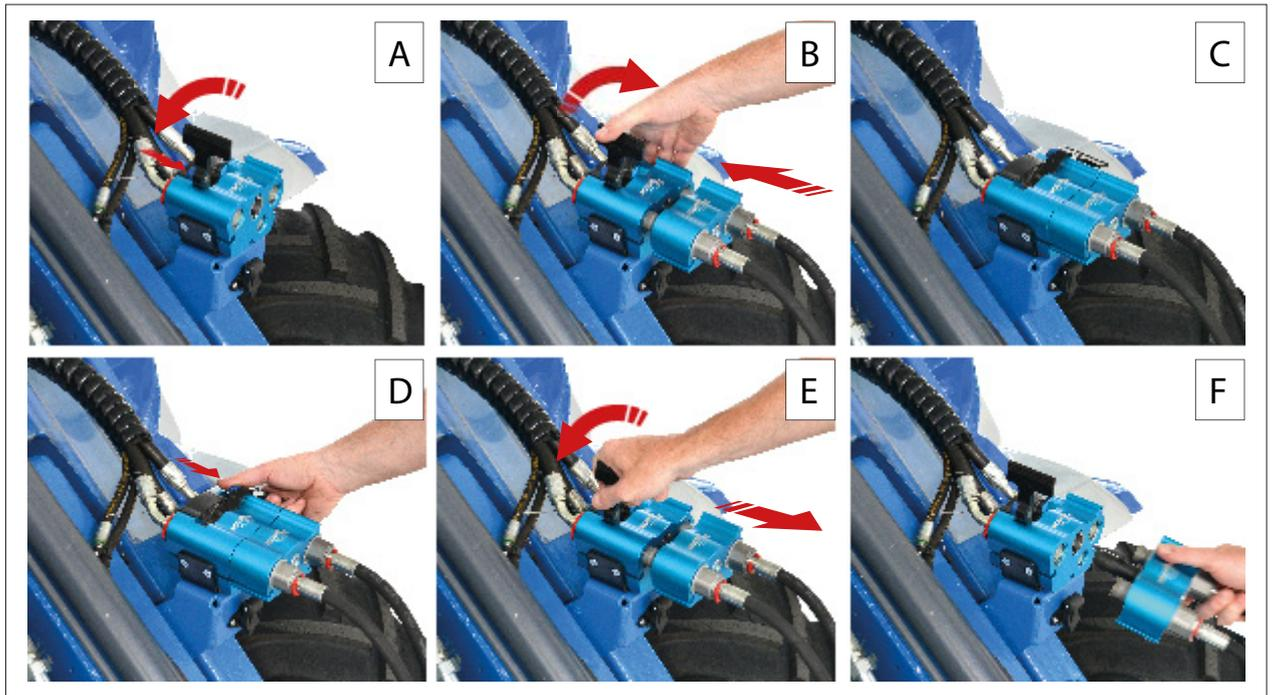

FIG. 33
Before making hydraulic connections between the machine and the attachment (FIG. 33) you need to release the residual pressure in the hydraulic circuit of the machine. To make this proceed as follows:
- 2) Press the lock button (FIG. 32 - Ref. 2) on the lock handle and raise the lock handle (FIG. 32 - Ref. 3) to the unlocked position (FIG. 33 - Ref. A).
- 4) Pull the lock hand (FIG. 33 - Ref. B) downwards, drawing the adapter plate into the connector (FIG. 33 - Ref. C).
- 1) Press the lock button (FIG. 33 - Ref. D) on the lock handle and raise the lock handle to the unlocked position (FIG. 33 - Ref. E).
- 2) Disconnect the attachment's hydraulic lines from the machine (FIG. 33 - Ref. F).